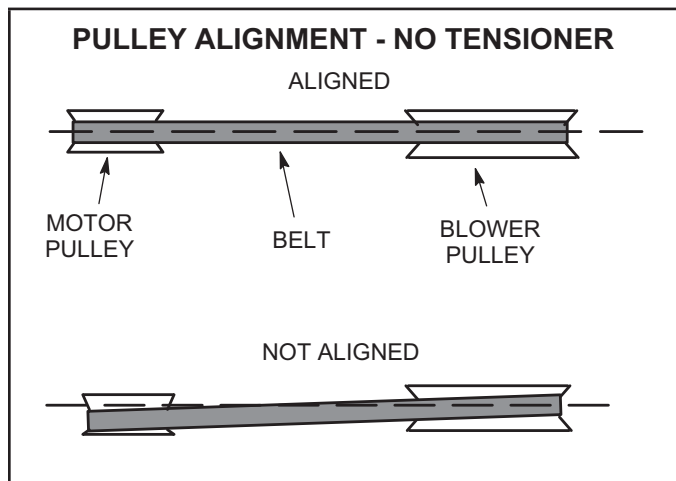

FIGURE 15
4. The blower RPM can be adjusted at the motor pulley. Loosen Allen screw and turn adjustable pulley clockwise to increase CFM. Turn counterclockwise to decrease CFM. See FIGURE 15. Do not exceed minimum and maximum number of pulley turns as shown in TABLE 6.